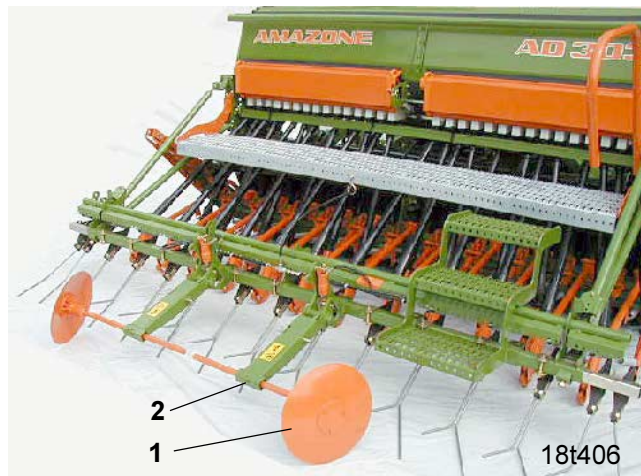

Fig. 19.6
The pre-emergence marker discs (Fig. 19.6/1) trace the tramlines created by the tramlining control unit and have to be set to the correct track width.
- Slacken hex bolts (Fig. 19.6/2).
- Move the marker discs (Fig. 19.6/1) in the marker disc carrier corresponding to the track width of the tramlines.
- Firmly retighten hex. bolts (Fig. 19.6/2).
Tramlining control units with 2-bout switching rhythm or 6-plus bout switching rhythm are provided with seed metering wheels that can be disengaged for creating tramlines only on one side of the drill. Therefore only fit one of the two marker discs (Fig. 19.6/1) when using these switching rhythms. Set this remaining marker disc in such a way that when drilling up and down in the field, the track width of the husbandry tractor is traced.